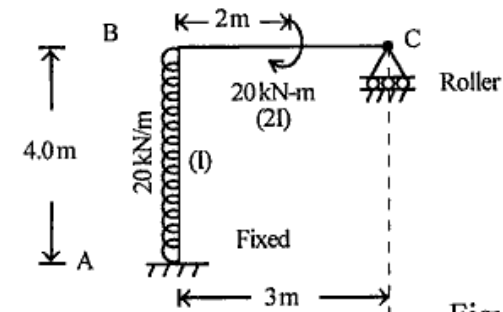

Figure 1
- Analyse the frame as shown in figure 1 by strain energy method and draw BMD.